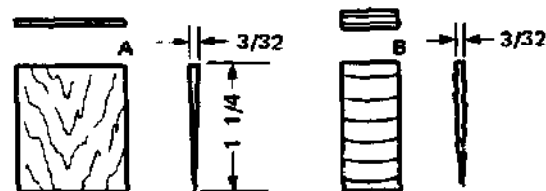

Fig. 11-19 Sizes of wood and metal wedges.
7. See figure 11-19. Prepare a thin wedge equal in width to the eye and about $1\frac{1}{4}$ inches long. Drive it into the kerf to its maximum tightness.